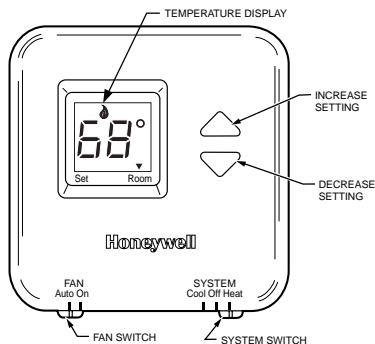

Fig. 10. T8400C Digital Display and Switches.
Fan and system settings are controlled manually by using the switches located at the bottom of the thermostat case. See Fig. 10.
1. Select Heat or Cool by sliding the system switch in the lower right corner of the thermostat to the desired mode. See Fig. 10.